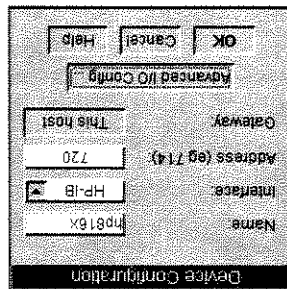

Figure 12 Device Configuration
- 2 Double-click on the Add button to bring up the Device Configuration screen, see Figure 12.